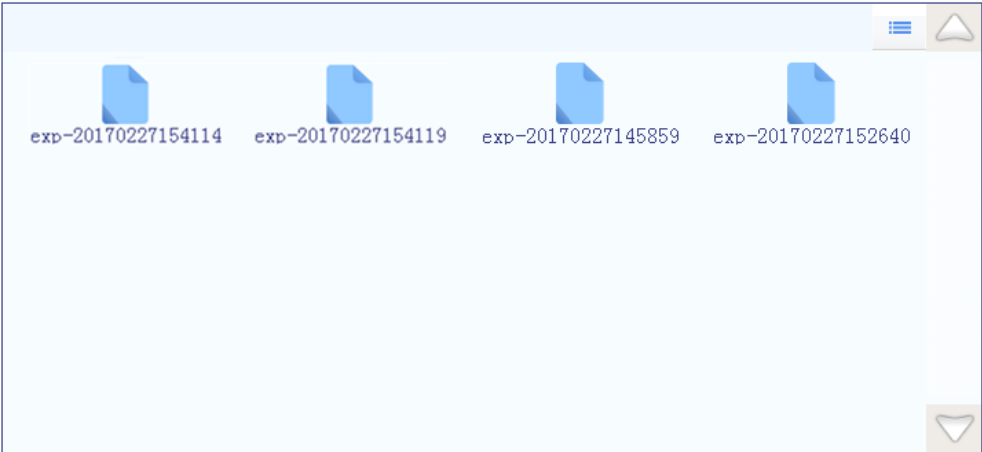

Figure E-2.1 Experiment File tab - Experiment file display area
- 1. **Experiment File Displaying Area:** display the pre-existed experiment files or file folders within the instrument system, as shown in figure E-2.1.